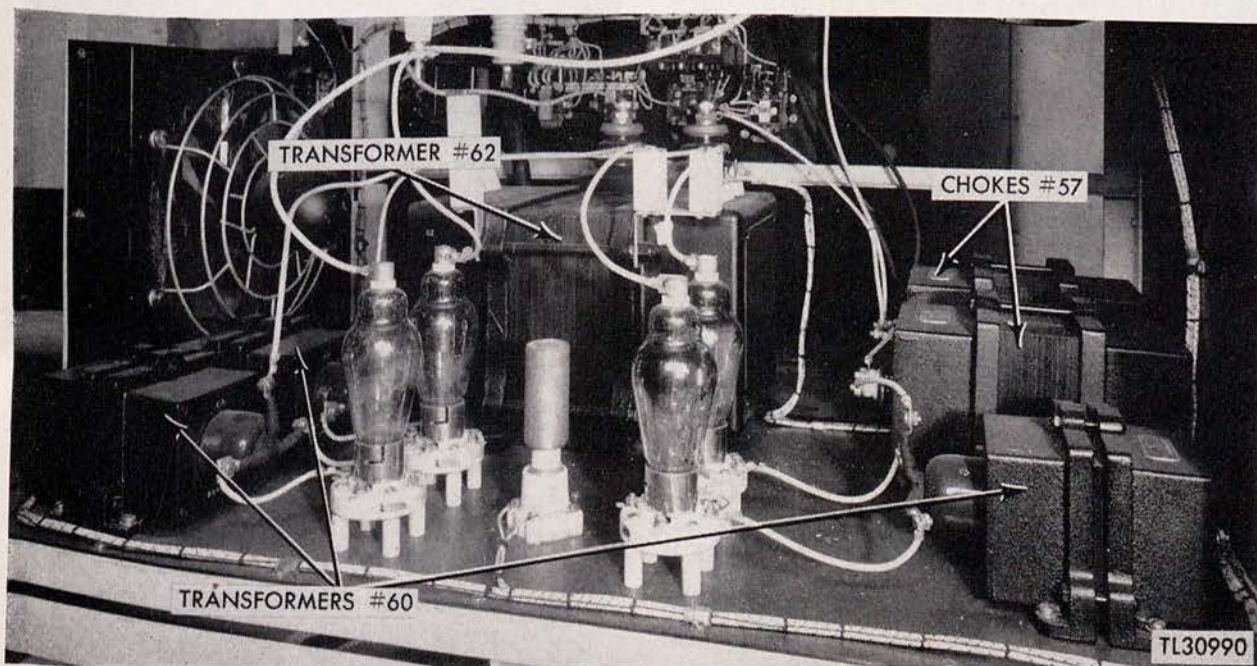

Figure 117. Keyer BC-758-A, showing location of Chokes 57 (1-2) and Transformers 60 (1-3), and 62.
(1) Remove the four 866 tubes.
(2) Remove the nuts and lockwashers from the primary and secondary terminals (fig. 117).
(3) Remove and tag the leads.
(4) Remove the two mounting bolts from the secondary side.
(5) Loosen the two mounting bolts on the primary side.
(6) Slide the transformer forward and remove it from the unit.
145. Plate Transformer (High-Voltage) 62 (fig. 117)